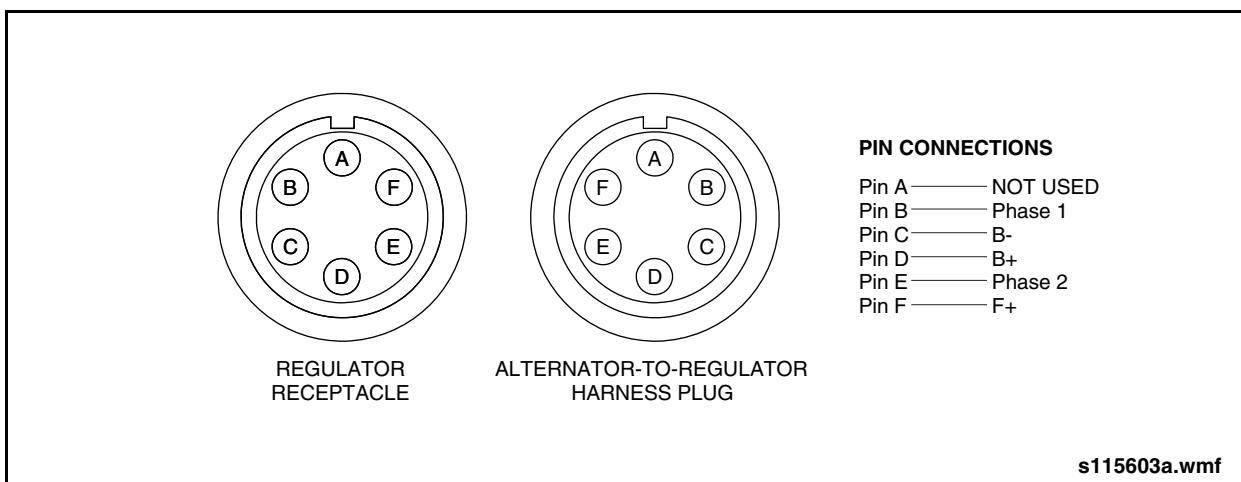

Fig. 9-9: Alternator Harness & Regulator Connections
2. Unplug alternator-to-regulator harness from regulator and connect meter leads to sockets "F" and "D" in the regulator receptacle. See "Fig. 9-9: Alternator Harness & Regulator Connections" on page 17. Observe reading. Reverse leads and again observe meter reading. If DMM reads zero in either direction, field-switching transistor is shorted. Replace regulator.